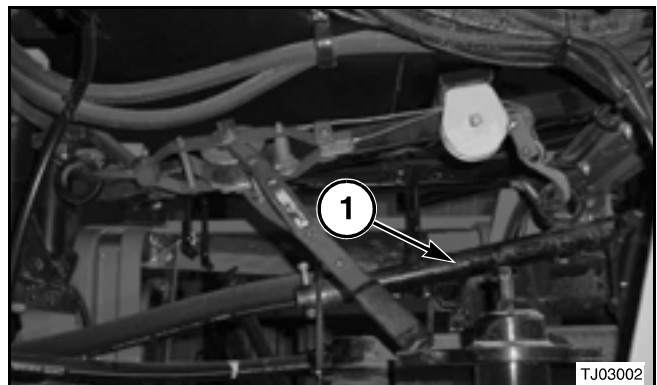

FIG. 11
FIG. 11: Reposition rear transmission lifting eye to top and install transmission lifting bar (1) through both lifting eyes and secure. Attach come-along cable to lifting bar and tighten cable.